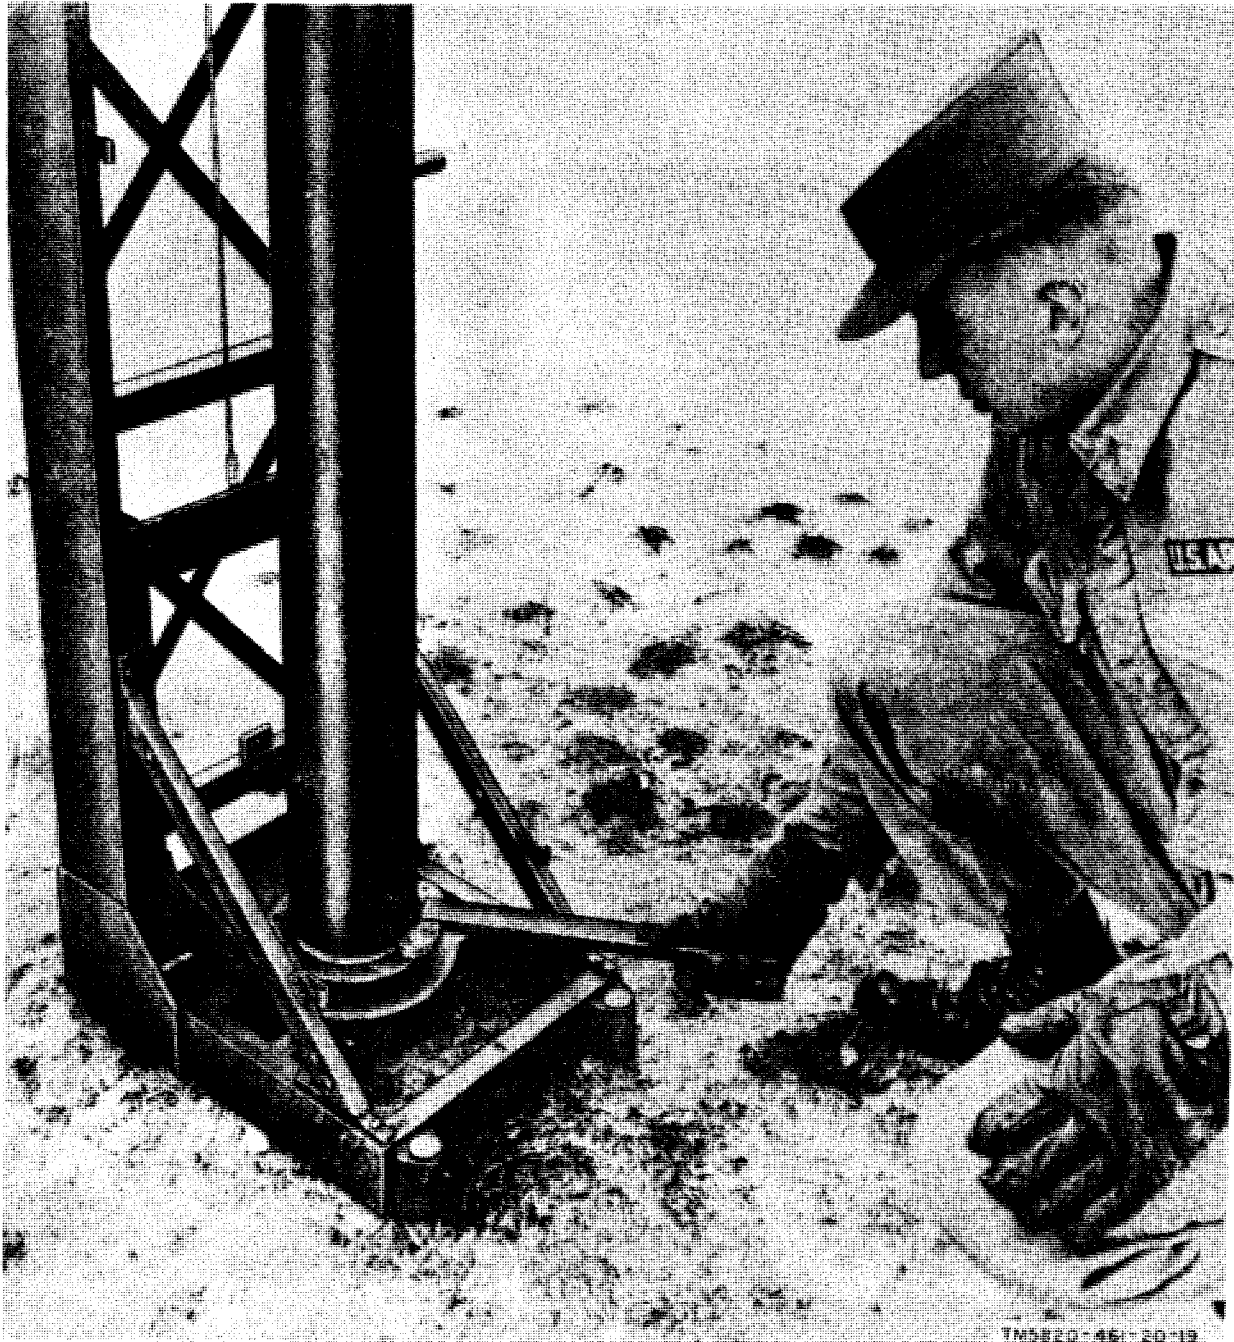

Figure 2-20. Rotating mast (mast section carrier removed for clarity).
2-9. Antenna Azimuth Adjustment (fig. 2-20)
- b. Set the spanner wrench into the holes in the mast base bearing (fig. 2-20).